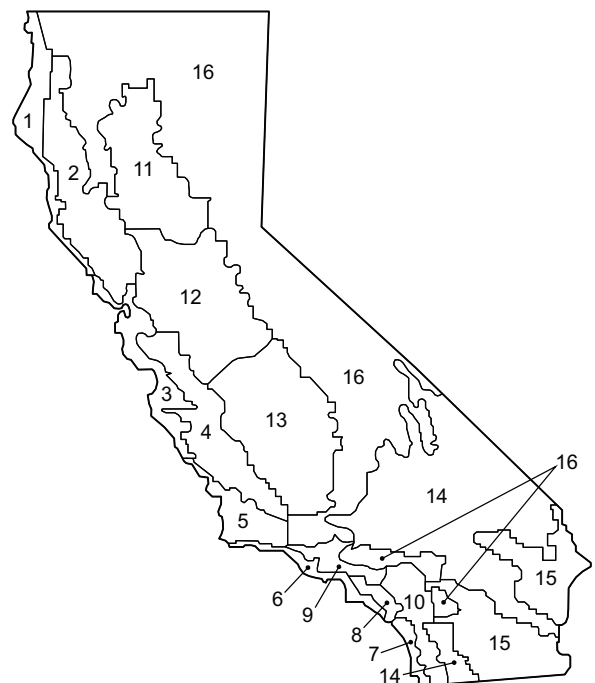

Fig. 89 — California Title 24 Zones
b. Refer to Fig. 89 for map of California Title 24 zones.